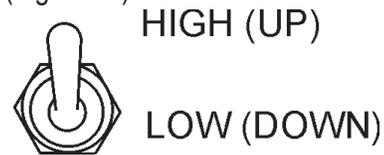

Figure 64. Engine Speed Switch (High)
24. Once the engine is warm and the engine is running properly, place the engine speed switch in the “**HIGH**” position (Figure 64).